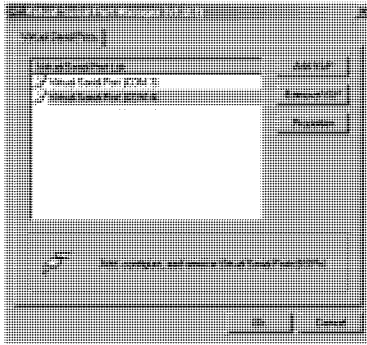

Figure 10: The Virtual Serial Port Properties Window (COM 3 and COM 4)
4. You can set a virtual port for each local port on your **VS-81HDMI** (see Figure 10).